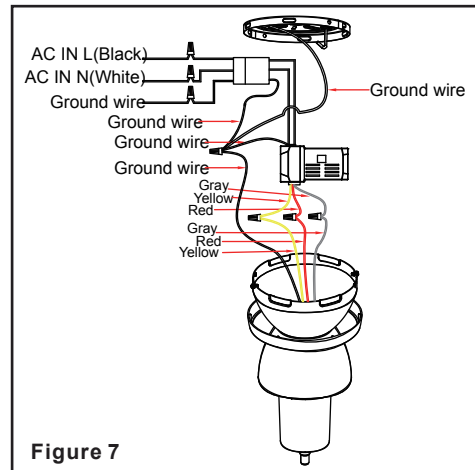

Figure 7
2. (Figure 7) Motor to receiver electrical connections: Connect the grey wire from the fan to the grey wire from the receiver. Connect the red wire from the fan to the red wire from the receiver. Connect the yellow wire from the fan to the yellow wire from the receiver. Secure the wire connections with the plastic wire connecting nuts provided.
3. (Figure 7) Receiver to house supply wires electrical connections: Connect the black (hot) wire from the ceiling to the black wire marked "AC in L" from the receiver. Connect the white (neutral) wire from the ceiling to the white wire marked "AC in N" from the receiver. Secure the wire connections with the plastic wire connecting nuts provided.
4. (Figure 7) If your outlet box has a ground wire (green or bare copper) connect it to the fan ground wires; otherwise connect the ceiling bracket assembly ground wire to the mounting bracket. Secure the wire connection with a plastic nut provided. After connecting the wires spread them apart so that the green and white wires are on one side of the outlet box and grey/red and yellow wires are on the other side. Carefully tuck the wire connections up into the outlet box.